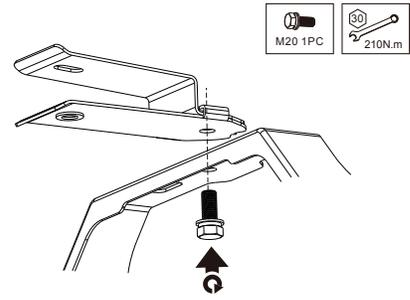

Fig. 12
3. Secure the clamp mount to the yoke mount with the provided bolt and nut (Fig. 12).